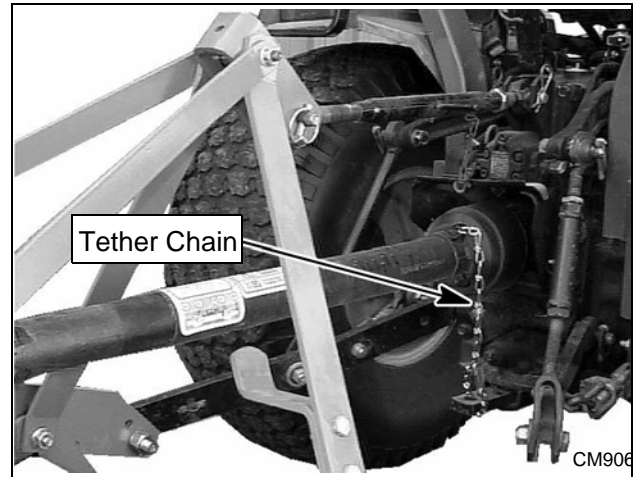

Figure 3. Attaching Mower to Tractor
4. Attach tether chain to tractor drawbar if drive equipped with chain, (Figure 3).